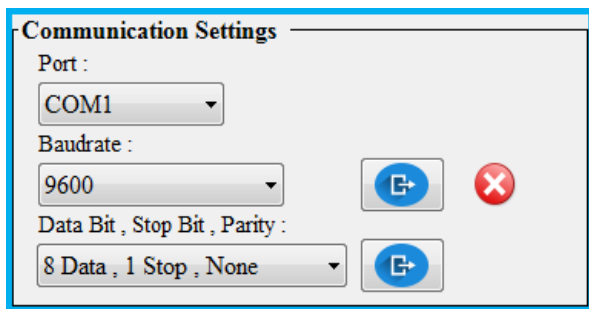
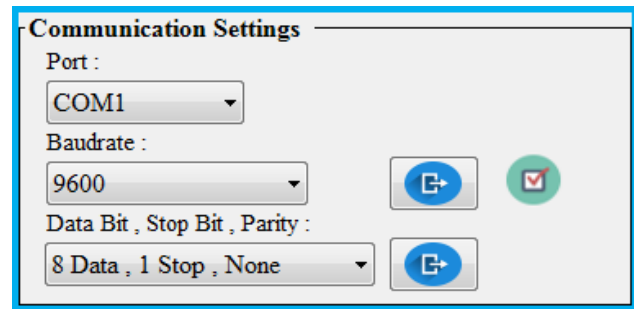

Figure 35
Figure 36
- If the setting is saved successfully right check will appear next to button. In case of error, wrong check will appear as shown in Figure 35 & Figure 36 respectively.